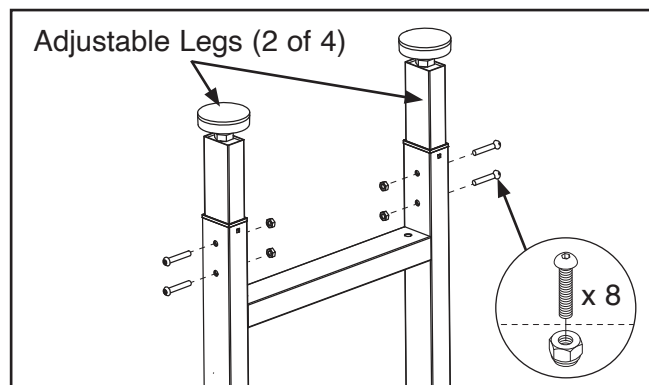

Figure 6. Location of fasteners securing adjustable legs.
1. Remove (2) pre-installed screws and lock nuts from bottom of each leg, then raise or lower (4) adjustable legs as desired and secure with removed fasteners, as shown in **Figure 6**.